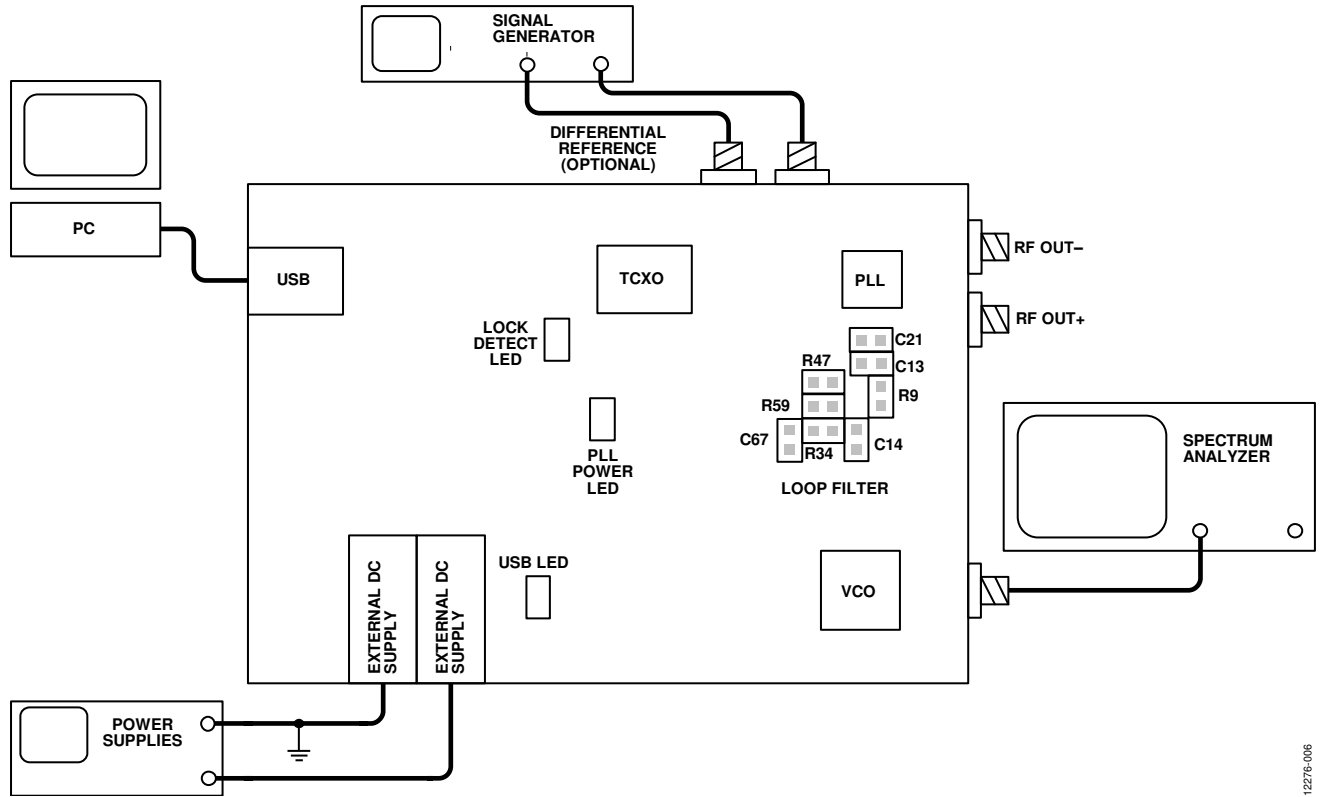

Figure 6. Typical Evaluation Setup
9. Connect the spectrum analyzer to the SMA connector VCO_I/O. Refer to Figure 6 for a typical evaluation setup.